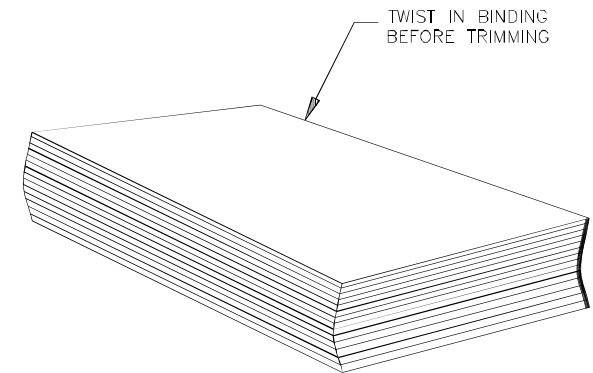

Figure 5-8. Twisted Binding
- The book was allowed to cool with a twisted binding as shown in Figure 5-8. When the book is straightened after trimming, it looks similar to the book shown in Figure 5-9. This is the most common cause of out of square, especially in a stand-alone trimming application where the binding has had significant time to harden.